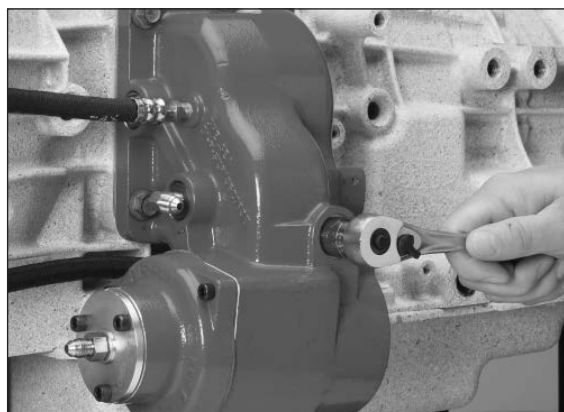

Figure 78
12. Make sure the O-ring from the stud kit is still on the longer hex head cap screw. Install this hex head cap screw and O-ring in the bottom mounting hole finger tight (**Fig. 78**).